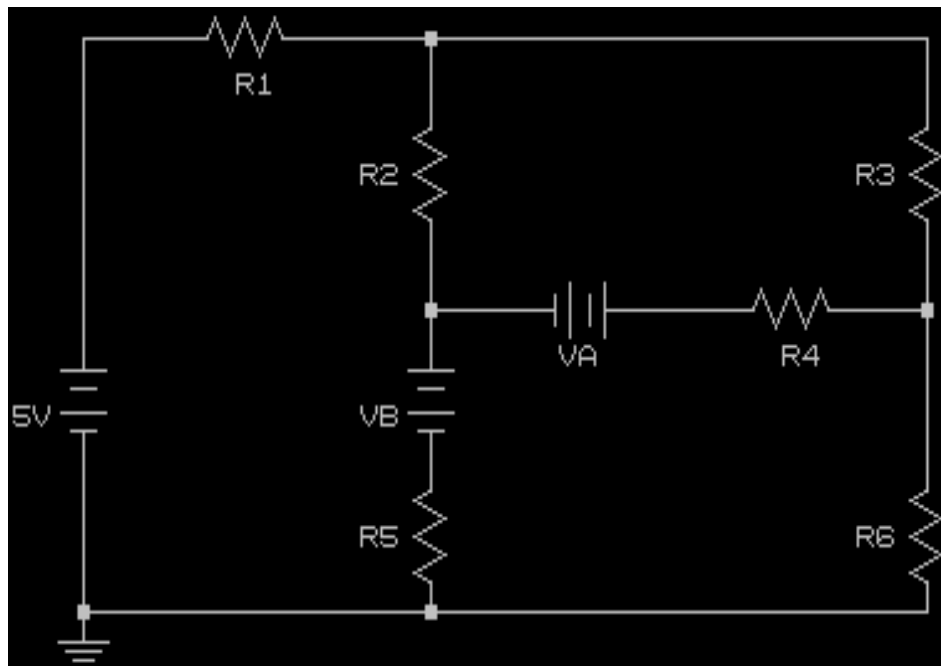

Figure 2 – Record CALCULATED Resistor Voltages & Currents Above
- _3) having determined all mesh currents, calculate the current through (magnitude & direction) and the voltage (magnitude & polarity) across each resistor. Record all currents & voltages on Fig. 2, and in the table you created in step 1.